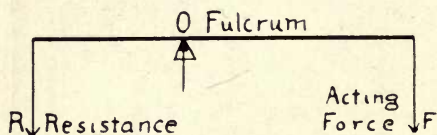

FIG. 255.—SIMPLE LEVER
282. The Lever. In the lever in its simplest form (Fig. 255) we find a force (F) acting upon the machine, which in turn acts